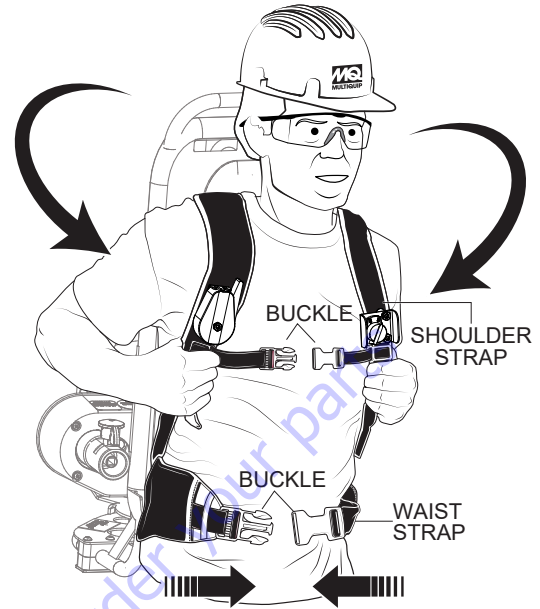

Figure 17. Backpack Adjustment
2. Place your arms through the shoulder straps and lift the backpack onto your back as shown in Figure 17.
3. Adjust the shoulder straps for comfort, then lock the shoulder strap buckle (Figure 17).